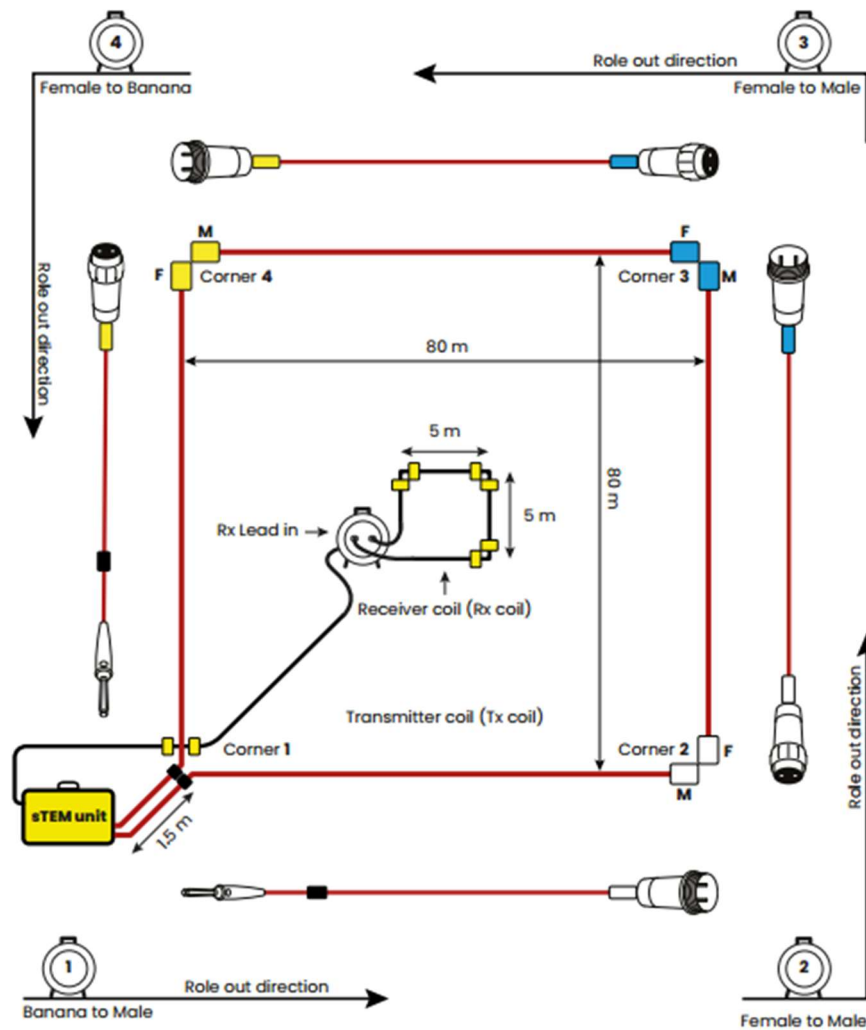

Figure 8. Example of sTEM system assembly with 80 x 80 m (262 x 262 ft) Tx coil and 5 x 5 m (16 x 16 ft) Rx coil.
The 80 x 80 m Tx coil comes in four cable drums. Make sure to identify the two cable drums with the additional 1.5 m (5 ft) Tx lead-in and use these cables for the 1st and 4th side of the Tx coil (Figure 8). Follow the colored connectors in the beginning and at the end of each cable, for easier layout.
- Locate the opposite diagonal Tx-corner and walk towards this while rolling out the entire Rx lead-in cable. The end point of the lead-in cable drum marks the first corner of the Rx coil (see Figure 5/ Figure 8)
- Layout the Rx coil in a square as shown in Figure 5/ Figure 8 and connect it to the Rx lead-in cable drum (see Figure 9).
- In the home corner, connect the RX lead-in cable to the sTEM unit. The excess Rx lead-in cable should be placed as in Figure 5/ Figure 8, crossing the Tx-cable perpendicularly.